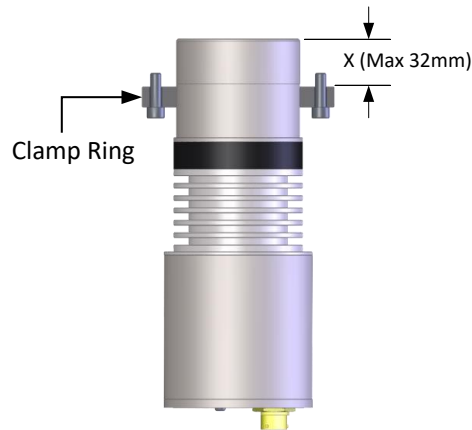

Figure 28: Positioning the Clamp Ring
3. Adjust the position of the Clamp Ring to match the required insertion depth (Figure 28)